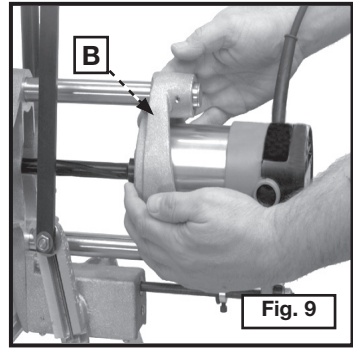

Fig. 9
8. Move the feed lever (A) to the horizontal position.
9. Grasp the motor carriage (B) Fig. 9 with both hands and pull toward you until the bit is clear. Remove the mortiser from 2" X 6".